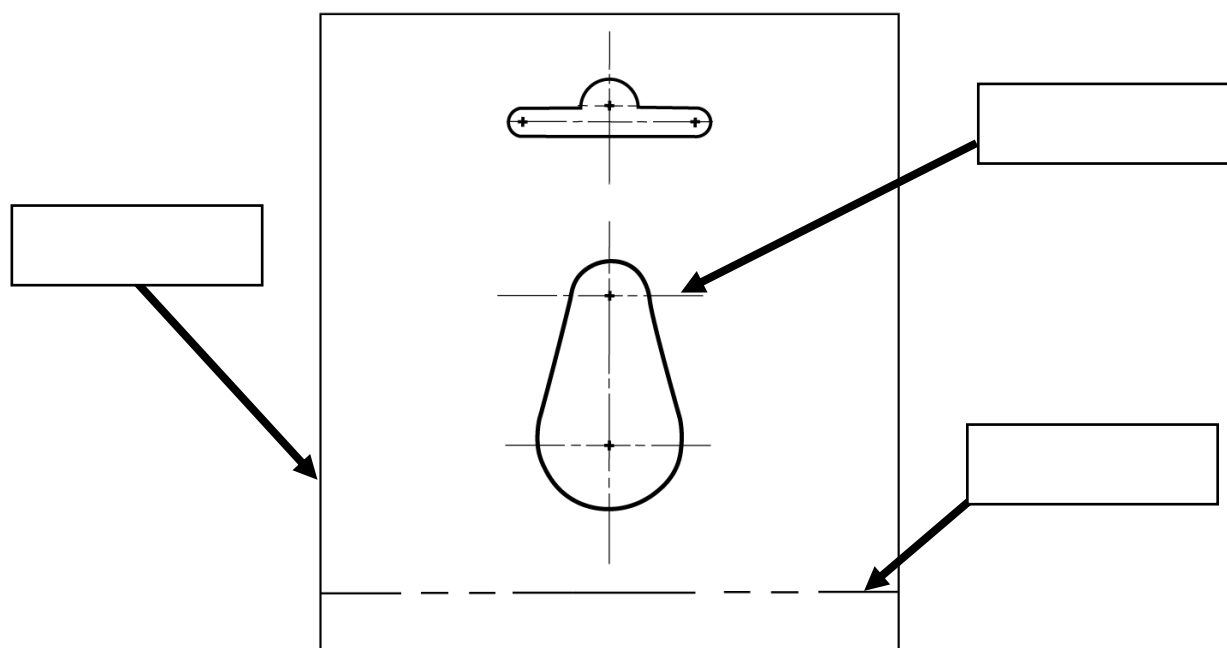

Figure 3
15. Figure 3 shows the development/net design of part of the packaging box for the lamp. Fill in the boxes by naming the types of lines indicated.